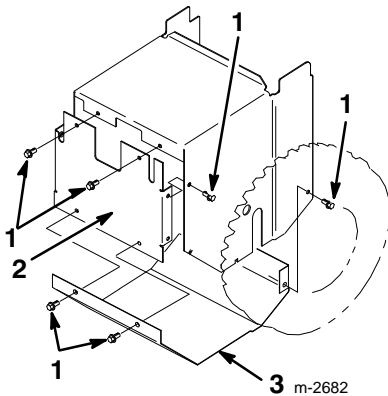

Figure 33
4. Remove eight screws holding the back and the bottom covers in place and remove the covers (Fig. 33).